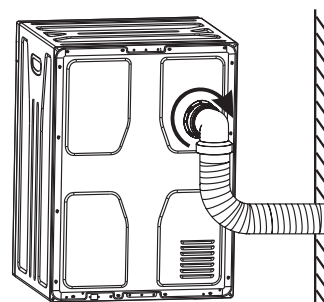

Fig7
3. Turn the exhaust hose assembly clockwise until it is clamped firmly, as shown in Figure 7.